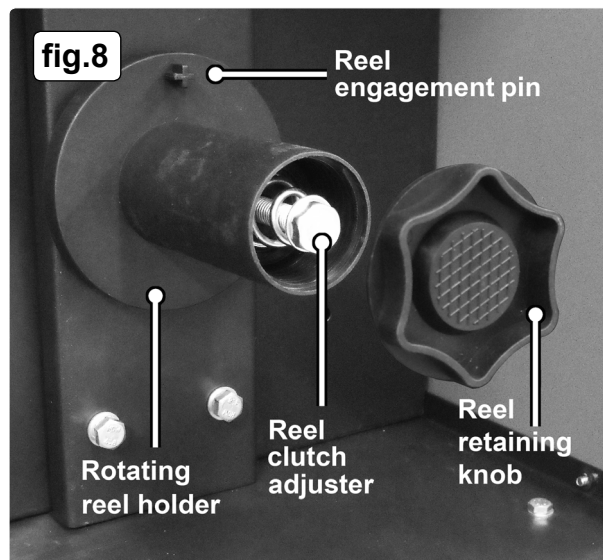

fig.8
5.6.1 Referring to fig.8, open the side of the wire feed compartment, and unscrew the reel retaining knob from the end of the rotating reel holder. Push the reel of wire onto the holder ensuring that the spool is rotating clockwise with the wire drawing off the top of the reel towards the flexible wire guide on the wire drive unit. The larger spools of wire have a 'moulded in' guide tube which must be located over the reel engagement pin on the rotating reel holder flange (See fig.8 below). The pin, in conjunction with the reel tension clutch adjuster will stop heavy reels of wire from free wheeling on the reel holder. See also 'setting wire tension' in section 6.4.
It is essential that the clutch is adjusted correctly. Once the wire is fed through the torch, switch on the machine and set the wire speed and voltage switch to maximum. Depress the torch switch and release quickly. If spool overruns it indicates that the clutch is too loose. Tighten the reel clutch adjuster (located in the centre of the reel holder (fig.8), and test the machine as above until the wire stops over running.